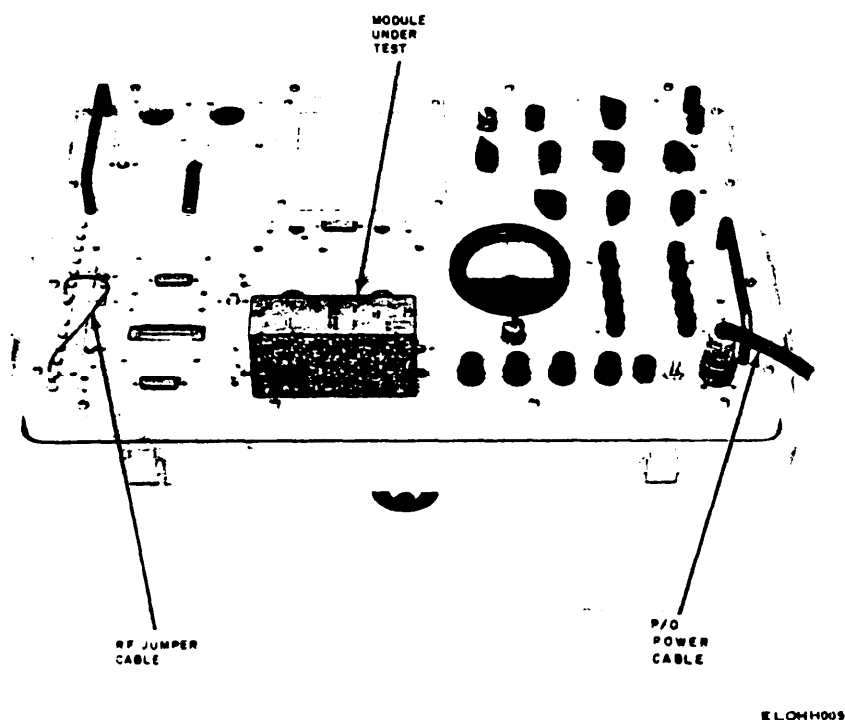

Figure 3-2 Test set typical test bench setup
c. Plugging in Modules (fig. 3-2). When a module is to be tested, first set the POWER switch to OFF, and then plug the module into the appropriate